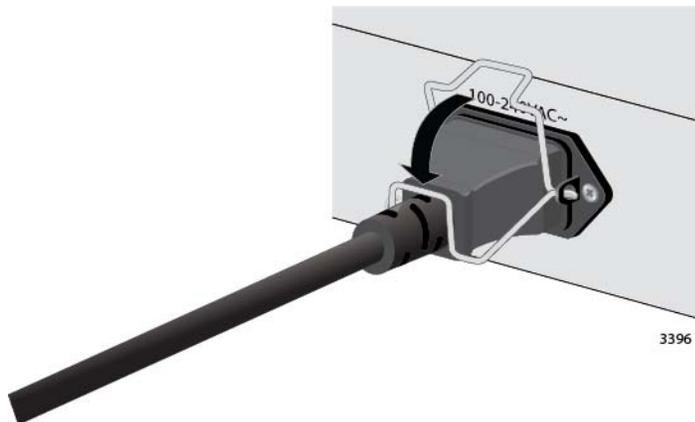

Figure 48. Lowering the Retaining Clip
4. Lower the retaining clip to secure the power cord to the switch. Refer to Figure 48.